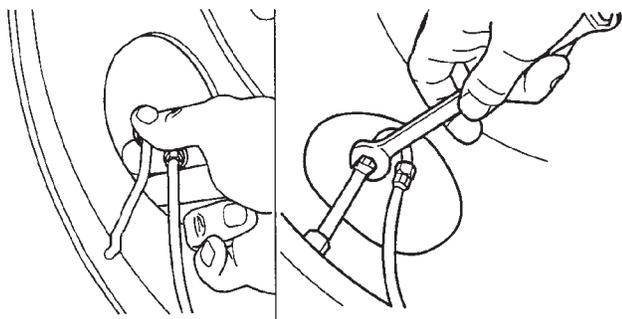

Figure 25: Attaching tire hoses to tire valve stem
- Tighten** the tire hose/valve stem connection finger tight (Figure 25).
- Using a 7/16 inch wrench, **tighten** the tire hose / valve stem connection an additional one-half turn (Figure 25). **DO NOT overtighten this connection.**